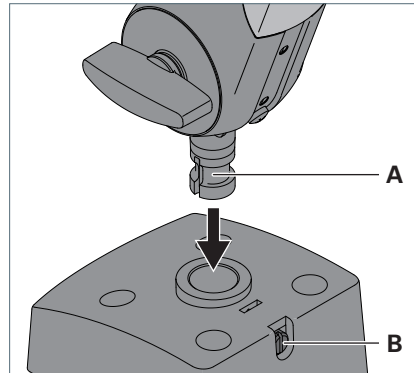

Fig. 2: Mounting the luminaire to the fastening element.
- ▶ Insert the stud **A** on the luminaire support into the opening of the fastening element, see Fig. 2.